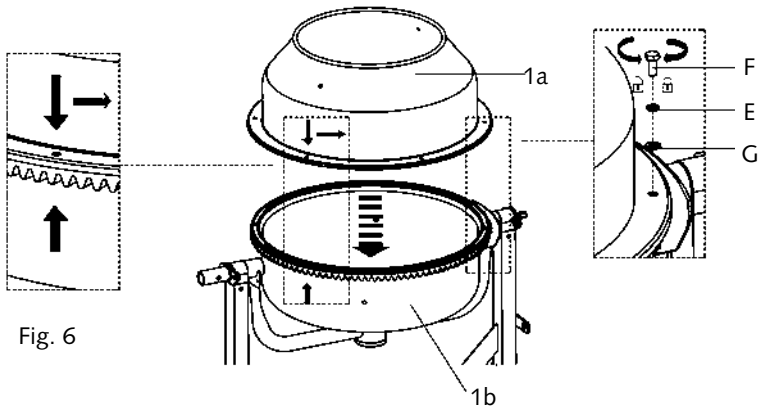

Fig. 6
- Secure the connection with bolts (F), spring washers (E) and washers (D) (Fig. 6).